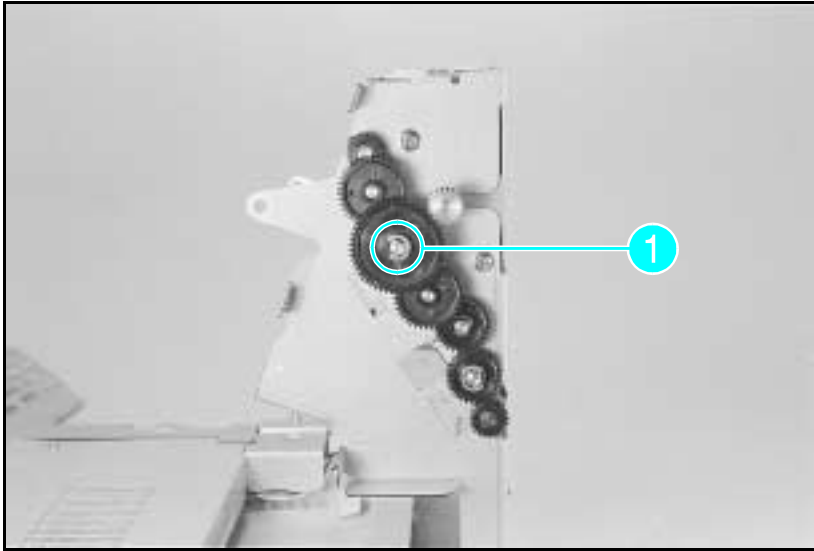

Figure A-15 **Gears on Paper Roller**
- 5** Remove the (1) E-clip from the gears on the shaft on the Power PCA side shown in Figure A-15, callout 1.